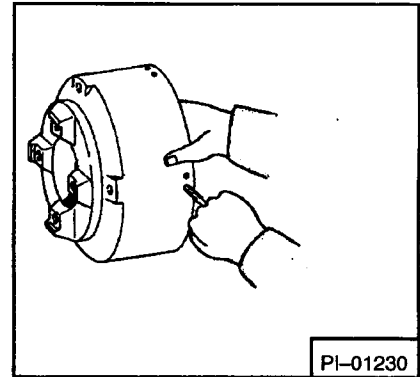

Fig. 4-50 Drilling & Tapping Housing
5. With center punch mark 8 drill holes. They should be positioned 2 per every 90° around the bell housing so set screws will seat against four machined bosses on motor housing (Fig. 4-50).
6. Remove bell housing from motor (Fig. 4-50).
7. Drill 8 holes and turn a 1/4 inch (6,4 mm) by 20 tap through them (Fig. 4-50).